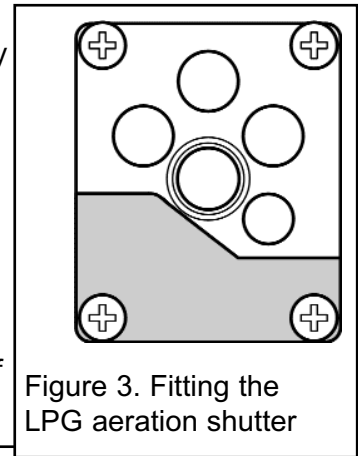

Figure 3. Fitting the LPG aeration shutter
4. A replacement aeration shutter is supplied. Remove this from the pack and locate to the burner using the two screws removed previously (See figure 3).